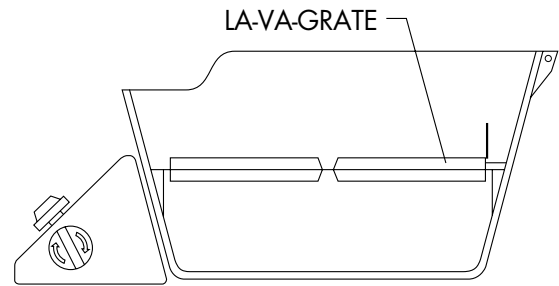

FIG. 34
9. Place the LA-VA-GRATE® on the front supports in the burner box and lower (holding flange with arrow) onto the ROTIS-A-GRATE® shelf. (See Fig. 34)